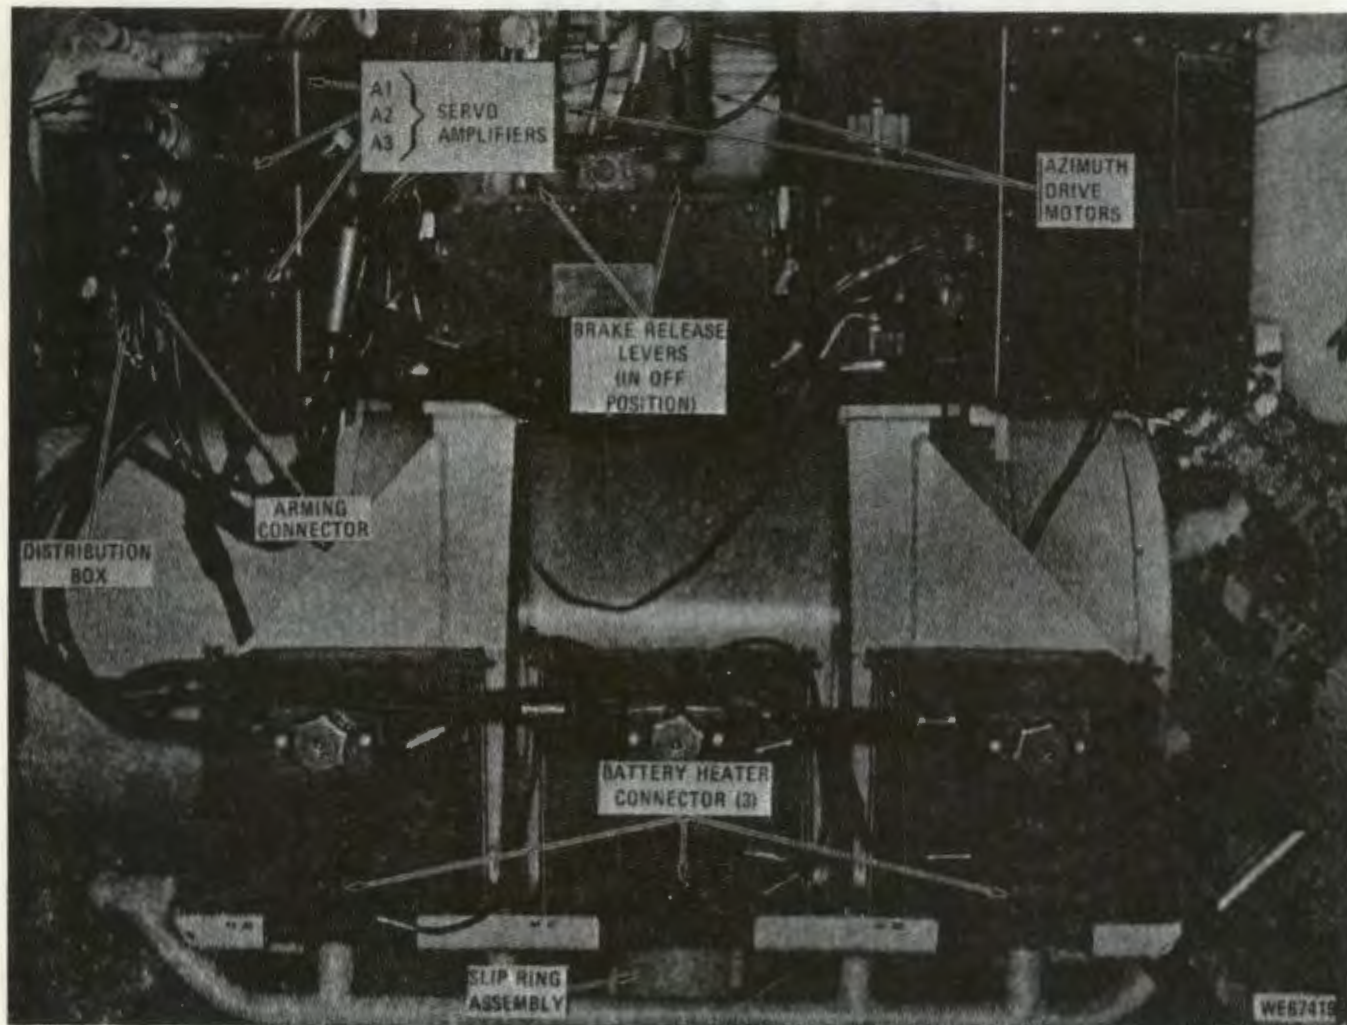

Figure 1-12. Lower M157 mount components, front view.
(d) *Slip ring assembly.* The slip ring assembly (fig. 1-12) provides electrical continuity between the M157 rotating mount and the M741 chassis. It allows unlimited azimuth rotation.
(4) *Cannon control group.* The cannon control group consists of the arming connector, gun drive assembly, portions of the control assembly, and portions of the distribution box. The gun drive assembly drives the cannon rotor. Circuits in the control assembly control the length of the bursts and control the electrical trigger circuits for firing the cannon. The cannon drive and trigger circuits are disabled when the arming connector is disconnected from the distribution box (fig. 1-12).
(b) *Servo amplifier assemblies.* Three identical servo amplifier assemblies (fig. 1-12) are employed in the group. One is used in the elevation drive and two are used in the azimuth drive. The elevation servo amplifier causes the elevation drive motor to move the cannon up or down, depending upon the position of the elevation control assembly. The azimuth servo amplifiers perform a similar function for azimuth positioning.
(c) *Azimuth drive assembly.* The azimuth drive assembly and two azimuth drive motors drive the mount in azimuth (fig. 1-12). The assembly is directly above the two drive motors.